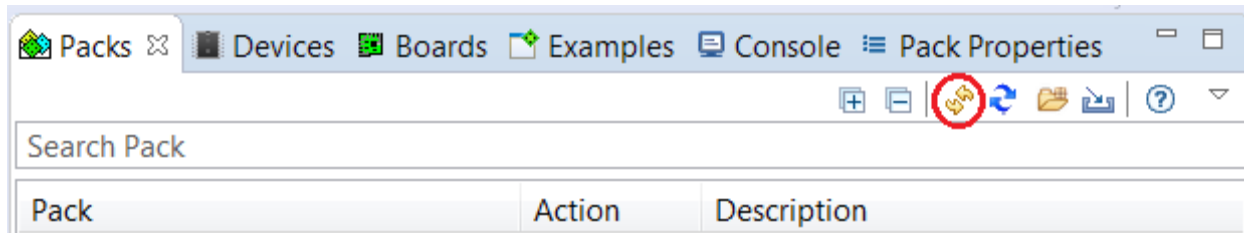

Figure 29. Refresh Pack after installation
- After installation, click on the refresh icon with yellow arrows, which shows the text **Reload Packs in the CMSIS Pack root folder** when you hover over it with your cursor, in the Packs tab (as shown in the figure "Refresh Pack after installation" (Figure 29)), to update your pack properties.